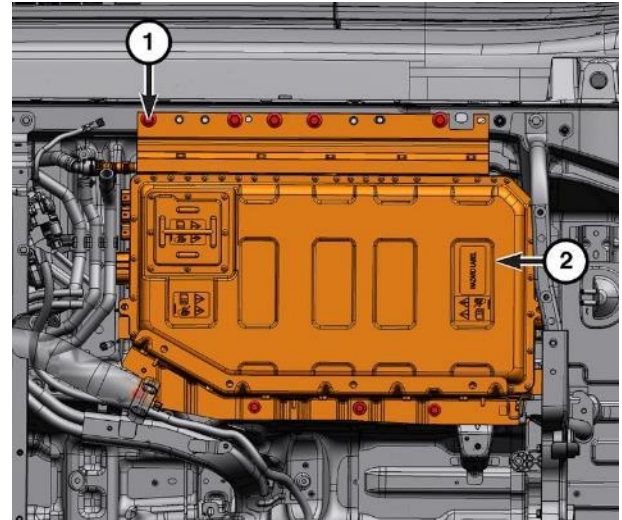

Figure 52 – HV Battery - Primary
39. Using Table, Bishamon Lift BX50-CHR or suitable lift, remove the bolts securing the HV battery to the vehicle and remove the primary battery from the vehicle (Figure 52).
53. Install the fasteners securing the HV primary battery to the vehicle and tighten to 80 N·m (59 Ft. Lbs.) (Figure 52).